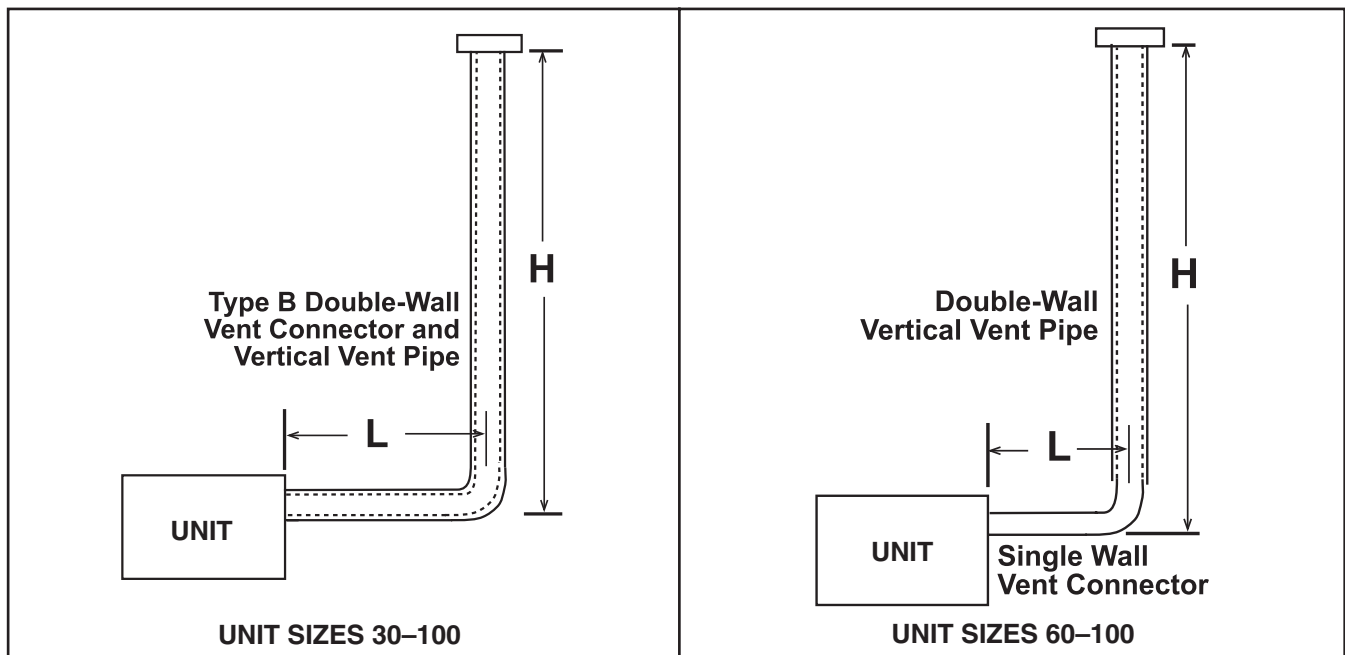

Figure 15. Typical Category I Dedicated Vent (Refer to Table 15)
1. Select vent pipe and vent connector for Category I vent (see Figure 15). Note that unit sizes 60–100 may use single- or double-wall vent connector.
H x L (See Figure 15) Dimension (Feet (Meters))